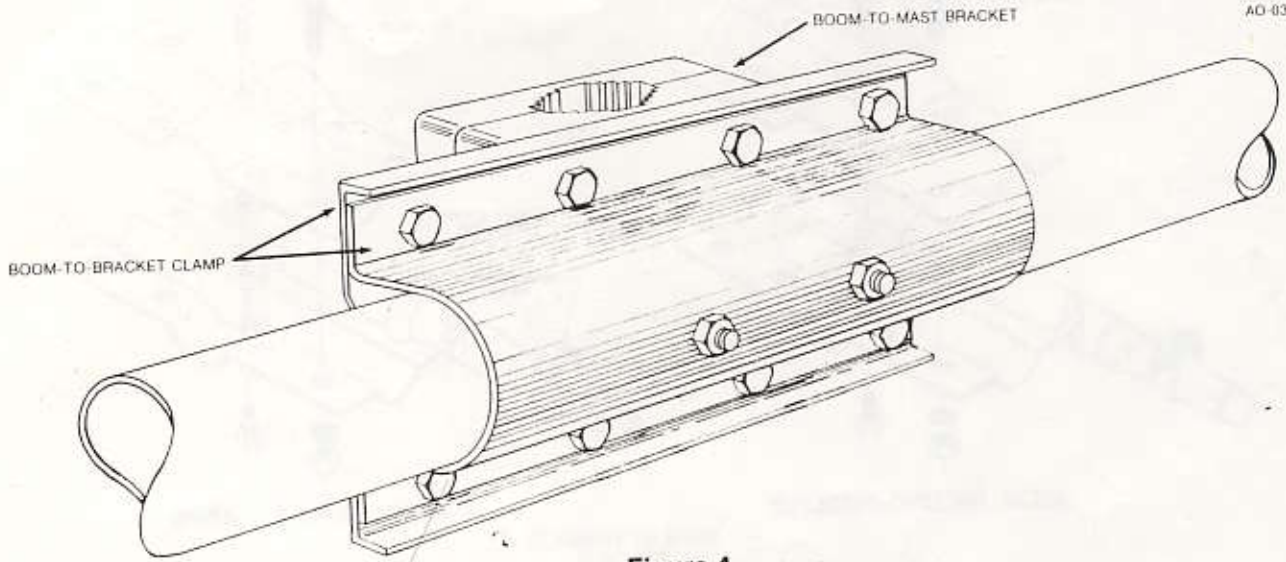

Figure 4
Select the cast aluminum boom-to-mast bracket (item 1). Align the boom-to-mast bracket with the holes in the boom-to-bracket clamp. Use the $\frac{5}{16}$ "-18 x 5" screws and the $\frac{5}{16}$ " nuts and split lockwashers to join the bracket and the clamp. See Figures 4 and 5. Do not tighten the screws at this time. The bracket must be loose to enable you to mount the antenna to the mast.